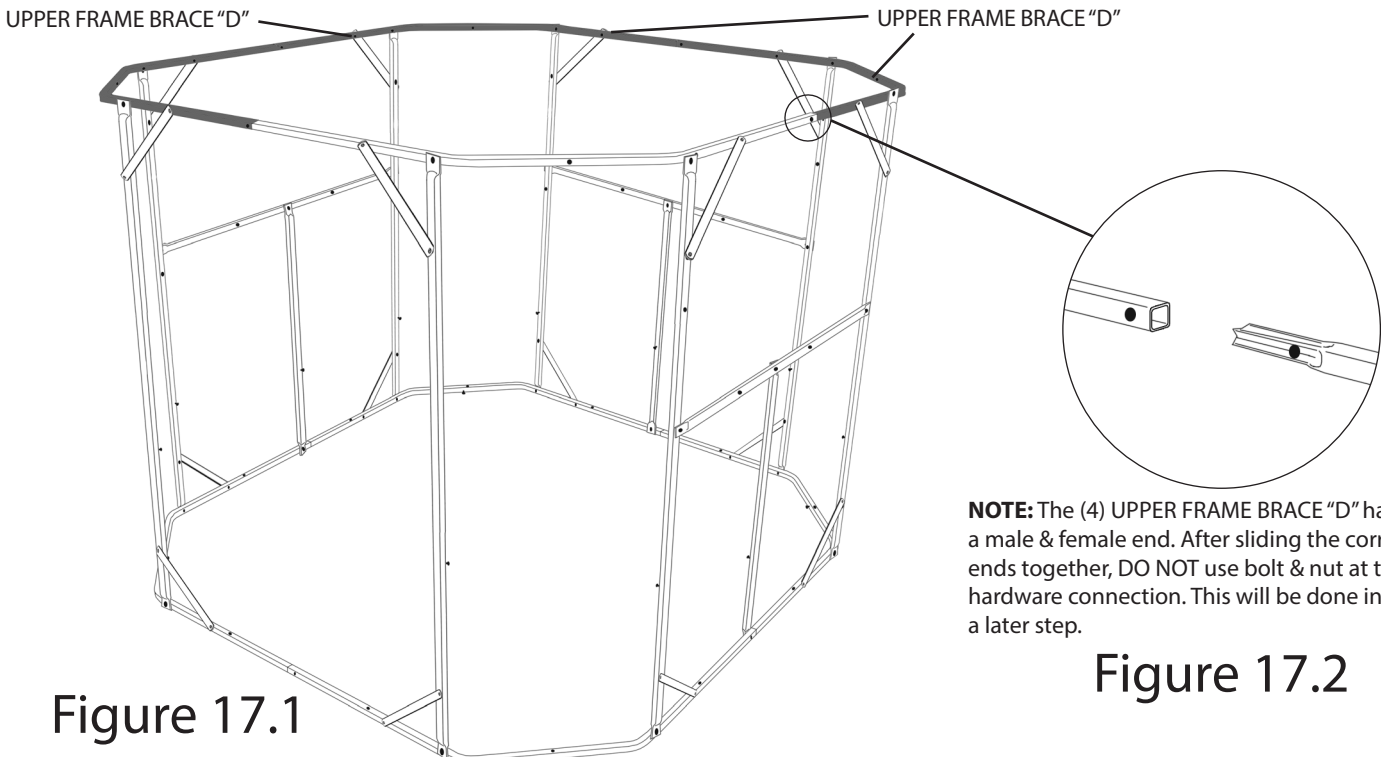

Figure 17.1
STEP 9: Locate the remaining (3) UPPER FRAME BRACES "D". Using (12) 1-1/4" BOLTS & (12) NUTS repeat STEP 8, fastening one at a time, the remaining (3) UPPER FRAME BRACES "D" to the COMPLETED WALL BRACES & CROSS MEMBER BRACES "J", as illustrated in Figure 17.1.